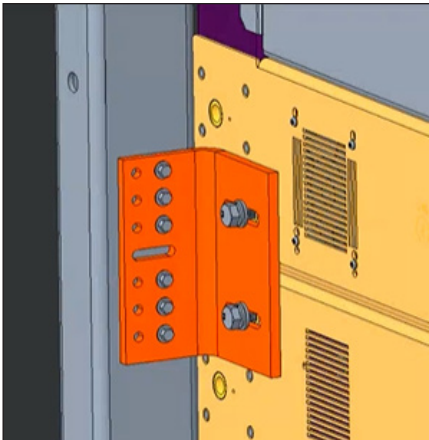

Figure 8: Secure Section with Screw
- Use a self-drilling screw in the slot of the clip angle. The screw can be loosened to provide adjustment as needed. Refer to Figure 8.